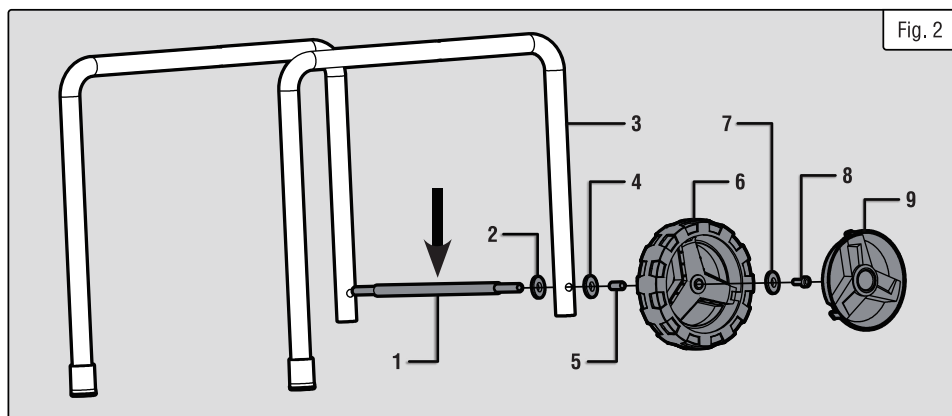

Fig. 2
2. Remove the wheel mounting hardware from the wheel axle (Fig. 2 - 1) using the included hex wrench. The wheel mounting hardware includes two hex nuts, two 6mm washers, two bushings, and four 9mm washers.
3. Place one 9mm washer (Fig. 2 - 2) onto the end of wheel axle and slide the axle through the hole in the leg bracket (Fig. 2 - 3) as shown in Fig. 2.
4. Place a second 9mm washer (Fig. 2 - 4) and bushing (Fig. 2 - 5) onto the axle and then install the wheel (Fig. 2 - 6).
5. Secure the wheel onto the axle using one 6mm washer (Fig. 2 - 7) and one hex nut (Fig. 2 - 8). The included hex wrench can be used to tighten the hardware. To stop the axle from turning while tightening the hardware, fit a screwdriver (not included) into the hole in the middle of the axle (Fig. 2 - Arrow).
6. Snap the wheel cover (Fig. 2 - 9) into place on the wheel to cover the end of the wheel axle. It is okay if there is some clearance between the wheel and the wheel cover.